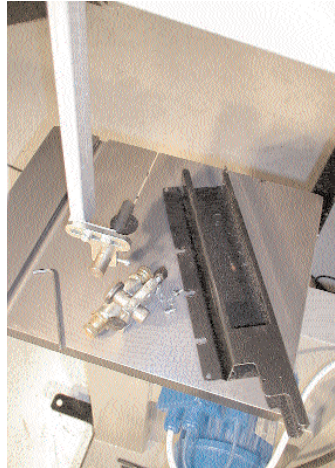

Fig. 21
3. Remove the blade guide as shown in Fig 21.